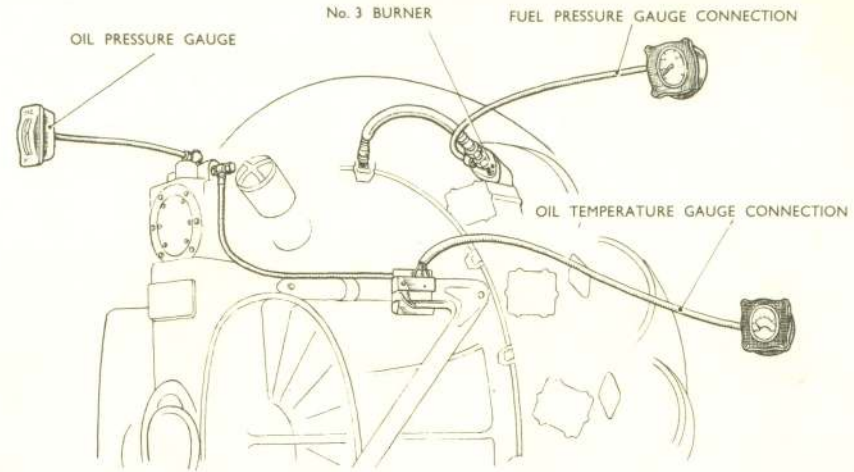

Fig. 9. Oil and fuel pressure check points
14. As there are no oil pressure or oil temperature gauges fitted on the cockpit instrument panel, provision is made for ground checking these readings and Fig. 9 shows the points from which readings can be obtained. To record the oil pressure, release the blanking cap and connect an adapter pipe leading to an oil pressure gauge. The pipe leading to the gauge must be primed in the normal way. The oil pressure gauge should read 40-45 p. s. i. in. at an engine speed of 8,700 r. p. m. After removing the gauge, refit the blanking cap
and wire-lock. The oil temperature gauge should be wired to the terminal block indicated in Fig. 9. The oil temperature must not exceed 70 deg.C.
15. The procedure for checking the fuel pressure is the same as that given in the preceding paragraph for the oil pressure. The attachment point for the gauge is shown in Fig. 9.